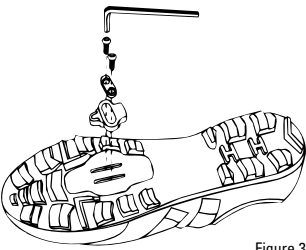

Figure 3
- Line up the threaded bolt holes of the cleat washer over the double channels inside the sole of the shoe (fig. 3).